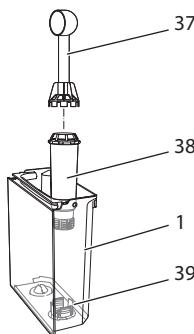

Fig. 18: Screwing/Unscrewing the water filter
- Remove the water filter when the appliance requests you to do so (see Fig.18).